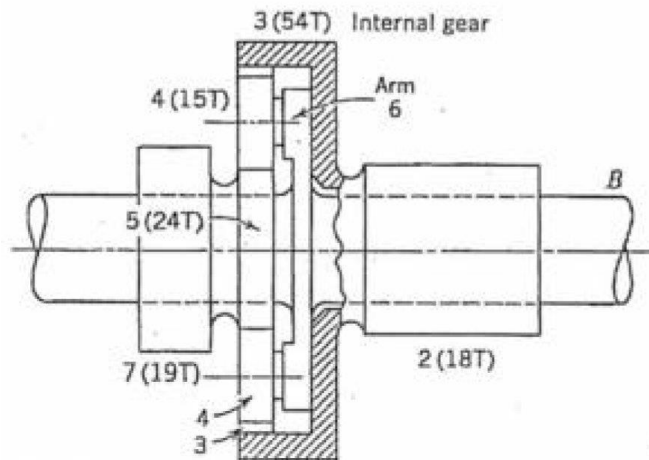

Fig. 6
7. A 3mm module, 20° pinion of 18 teeth drives a gear of 45 teeth. The pinion rotates with an angular velocity 9 rad/s (CCW). Calculate (A) Radius of pitch circle (B) Radius of base circle (C) Dedendum (D) Addendum (E) Diametral pitch (F) Center distance (G) The angular velocity of gear (magnitude and direction) (H) Contact Ratio. (10%)
10. A planetary gear train for a two-speed aircraft supercharger drive is shown in Fig. 6. Gear 2 is driven by a 63-tooth gear (not shown) which operates at 2400 rpm. At high speed, gear 2 connects to the supercharger shaft through additional gearing. At low speed, gear 7 is held stationary and shaft B is connected to supercharger shaft with the same gear ratio as was used between gear 2 and the supercharger shaft. If the supercharger operates 24000 rpm at high speed, calculate the low speed value. (10%)